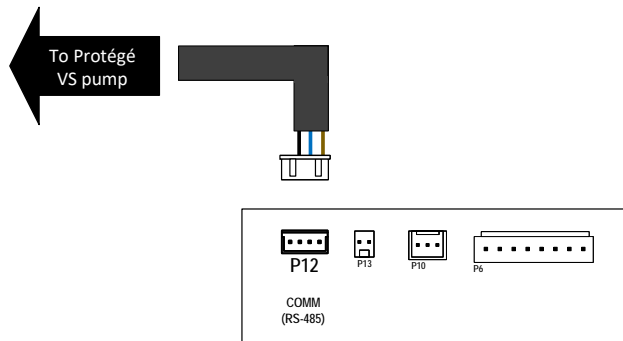

Figure 137. Wiring 24VAC Relays
- Then connect the other end of the RS-485 Modbus harness to the terminal labeled as “COM” [P12] on the control board. See Figure 137.